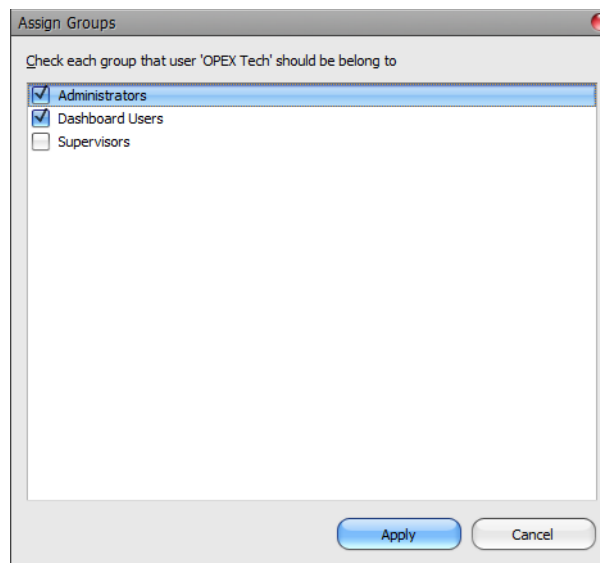

Figure 2-8: Assign Groups window
13. In the **Assign Groups** window that opens, check the policy groups you want the user to be assigned to, and uncheck the groups you don't want the user to be assigned to, as shown in Figure 2-8 (see page 34 for more information about policy groups).